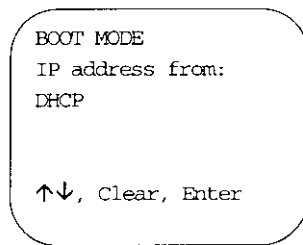

Figure D-9. Boot Mode Screen
8. Select **Boot Mode** from the main configuration menu. The Boot Mode screen (Figure D-9) is displayed.